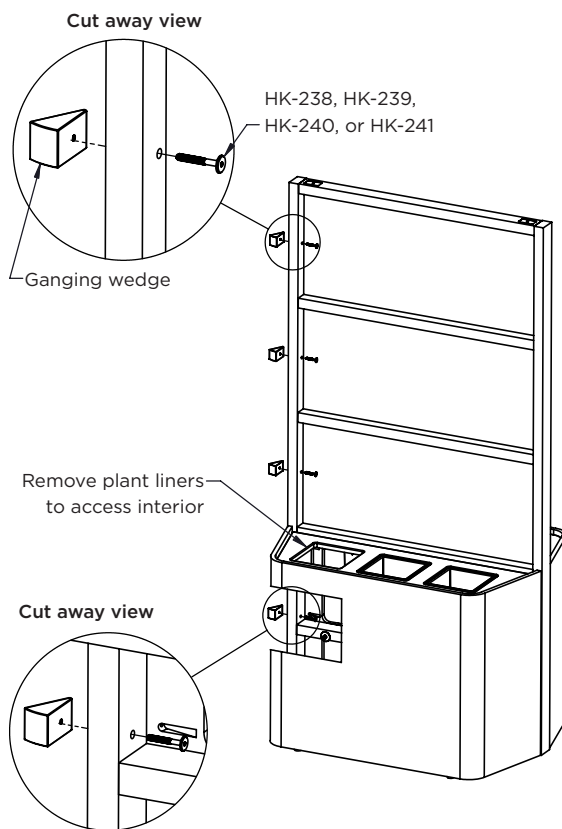

Figure 5B
- For 90"h to 90"h planters, locate ganging hardware connector bolts (HK-238, HK-239, HK-240, or HK-241, color dependent). The infill type will determine which hardware kit is used. Reference table below to identify the appropriate length. Remove the plant liners on the ganging ends to access the interior of the case. Using the $\frac{5}{32}$ hex key, secure the ganging wedges to the planter frame using the connector bolts. For 90"h to 90"h planters, there are four connection joints per side. (Figure 5B)